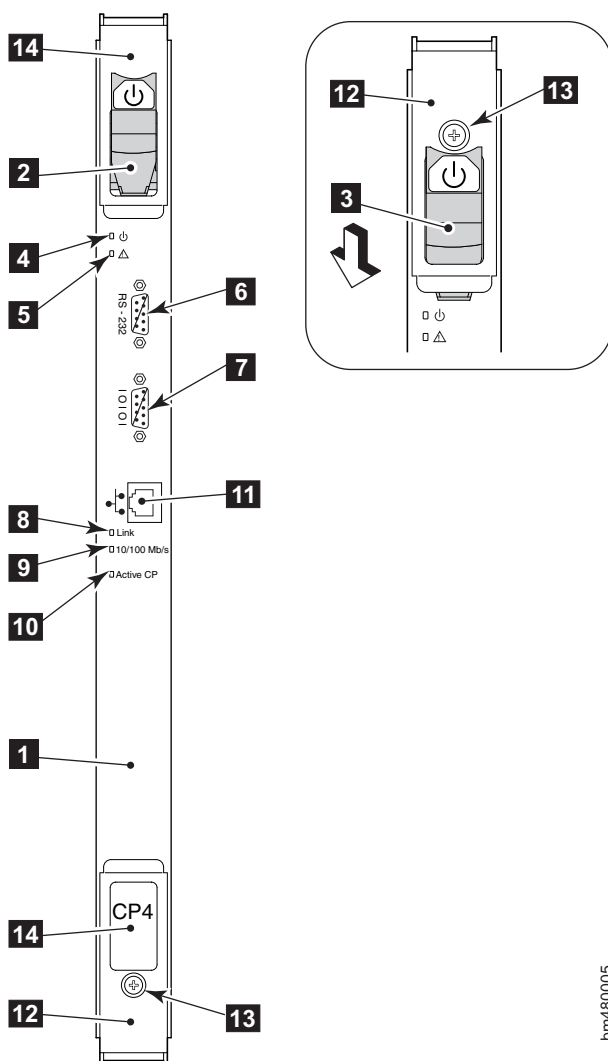

Figure 16. On/Off Switch for a CP4 blade
1. Verify that the ON/OFF switches for each port blade and CP blade are in the on position (see **2** in Figure 16).
**Note:** The console port is the second serial port from the top of the CP blade (see **10** in Figure 16 on page 28); the active CP blade is indicated by an illuminated (blue) LED. This LED on the standby CP blade should be off (not illuminated). This console port is intended primarily for use during the initial setting of the IP address and for service purposes. If necessary, the adapter on the end of the serial cable can be removed to allow for an RJ-45 serial connection.
8. View the "Active CP" LED on the CP blades in slots 5 and 6 (see Figure 16 on page 28), or enter the **haShow** command to verify which CP blade is active. The configuration can be modified only through a login session to the active CP blade.